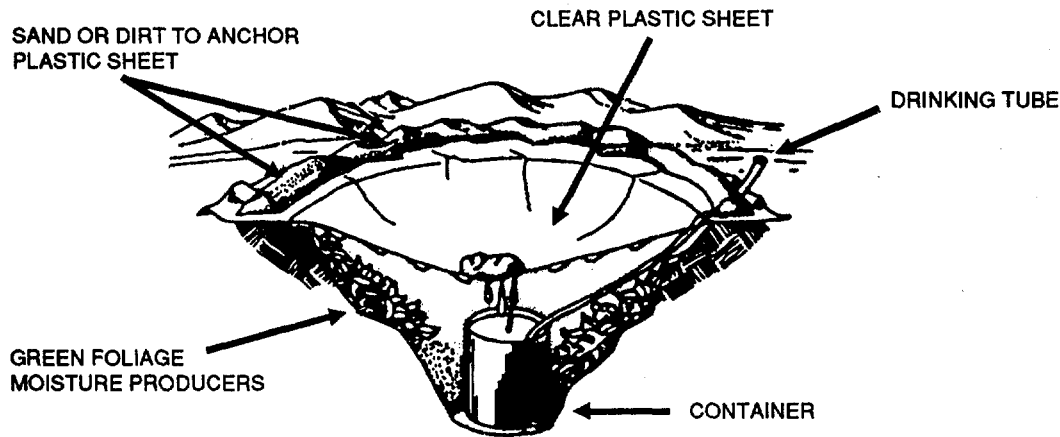

Figure 2-27. Solar Still
- e. Solar Still. The solar still (See Figure 2-27) is a five-foot-square piece of plastic and a three-foot-long piece of surgical tubing. The proper use of these items can make potable drinking water. Refer to the survival manual for complete instructions.